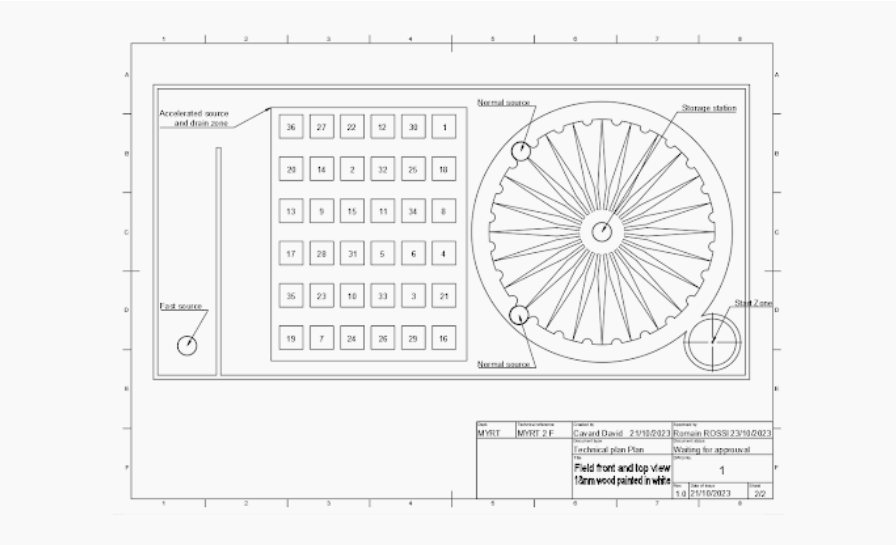

Figure 4
- Figure 4** : Positions of charging stations and Energy Storage Station.
Figure 4 shows the location of the energy sources on the competition platform.